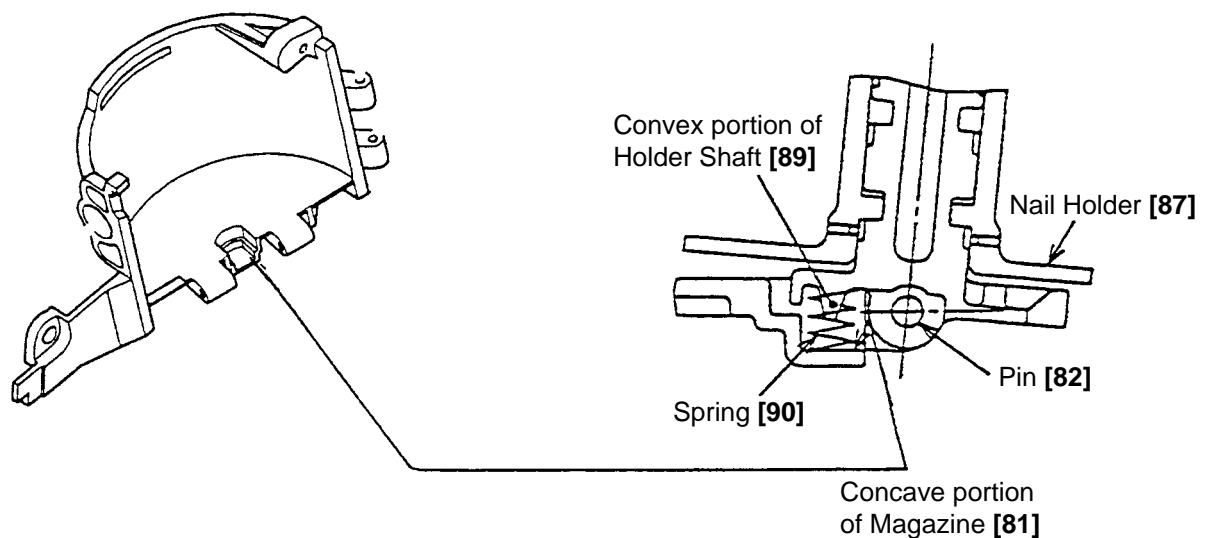

Fig. 16
- When mounting the Holder Shaft [89] to Magazine [81], check that the Spring [90] is inserted between the concave portion of Magazine [81] and the convex portion of Holder Shaft [89] and then insert the Pin [82]. (See Fig. 16.)